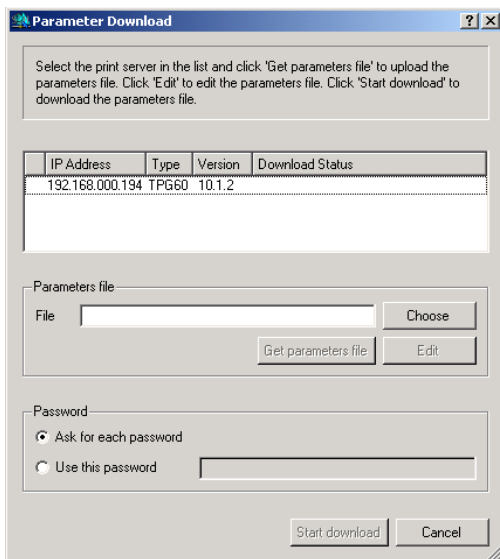

Fig. 7: InterCon-NetTool - Parameter Download
3. *Select Actions – Download 'Parameters' File from the menu bar. The Parameter Download dialog appears, see: figure 7 ⇨  34.*
4. *Click Choose. The Parameter Download dialog appears, see: figure 7 ⇒ 34.*